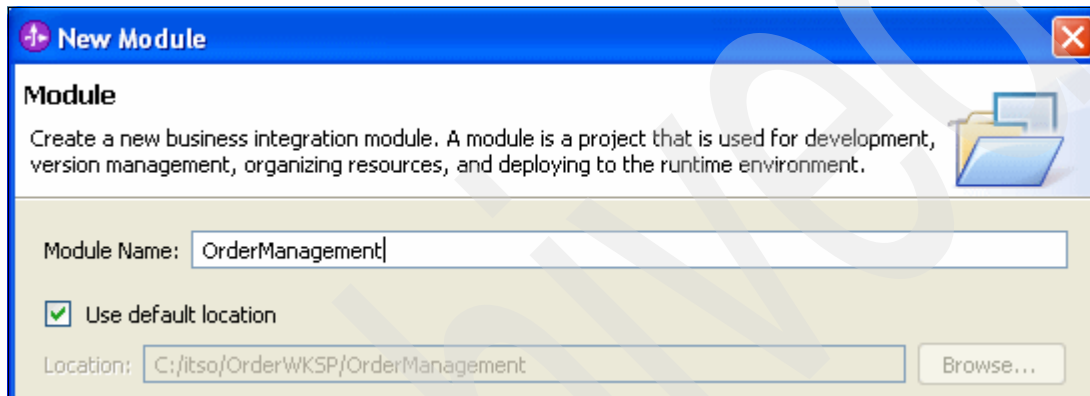

Figure 3-3 Creating OrderManagement module
1. Select **File** → **New** → **Module** to create a new business integration module. Name the module OrderManagement and click **Next**. See Figure 3-3.